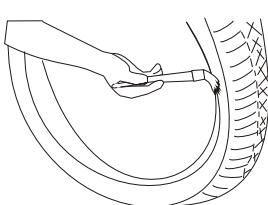

Fig 10
2. Lubricate the tire beads and wheel rim with the special grease which is suggested by the manufacturer. (If the wheel already be took out from the turntable, please install the wheel again) (Fig 10)